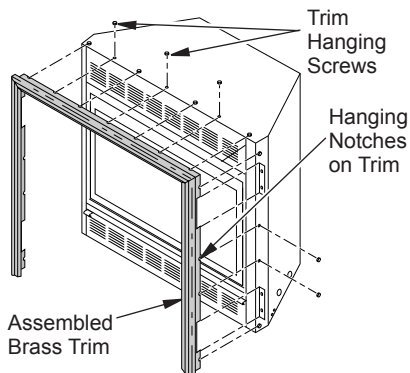

Figure 15 - Attaching Brass Trim to Fireplace
8. Tighten trim hanging screws (#10 x 6.25 shoulder) into holes in cabinets. Place the assembled trim onto fireplace cabinet. Align hanging notches on trim with hanging screws on side of fireplace (see Figure 15, page 12). Push trim firmly into place, sliding hanging notches over hanging screws.